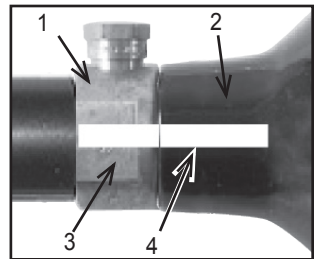

Figure 3: Marked Cylinder and Valve
The brass or nickel plated cylinder valve (Figure 3, #1) is intended to be permanently attached to the air or CO₂ cylinder (2).
Refer to Figure 3. There have been reported incidents caused by players unknowingly unscrewing the cylinder (2) from the cylinder valve (1). This occurs when the player thinks the entire valve-cylinder assembly is being unscrewed from the air supply adaptor of the paintball marker, when in fact they are unscrewing the cylinder from the cylinder valve.
4. Watch the marks on the cylinder and cylinder valve (as shown in Figure 3 on page 9) as you turn the cylinder approximately 3/4 of a turn counterclockwise. This allows the air supply pin valve to close so that no air will enter the marker.